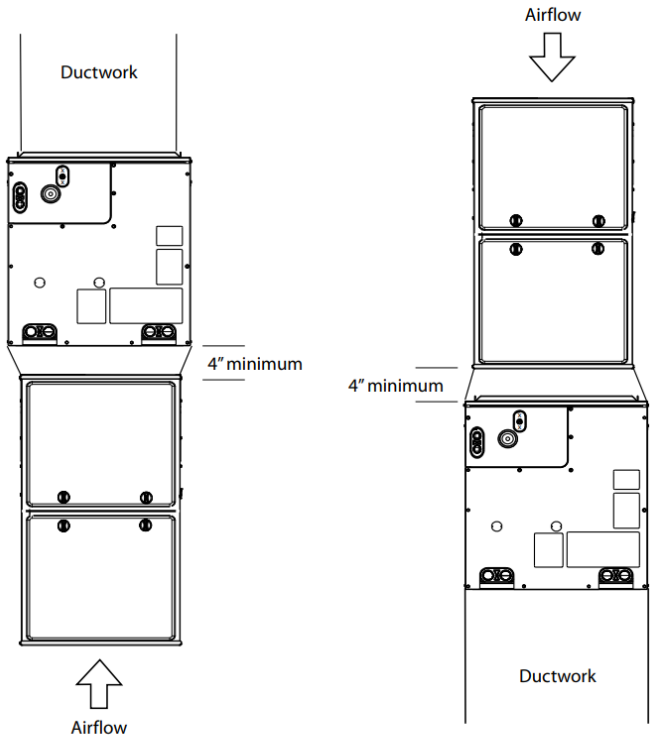

Fig. 3 – Adapter(s) Installation When Coil is Larger than Furnace
- 3. When installing wider coil on narrower furnace, it is recommended to use a transition adapter (Fig. 3).